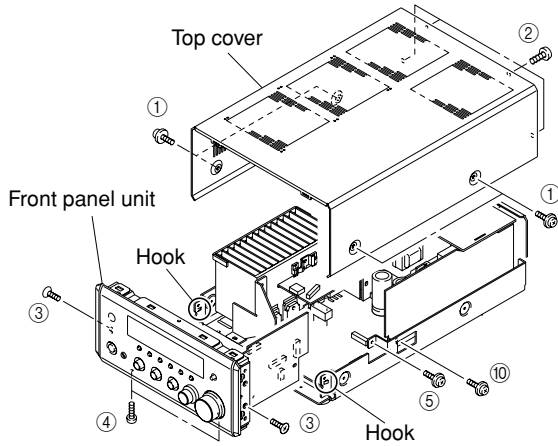
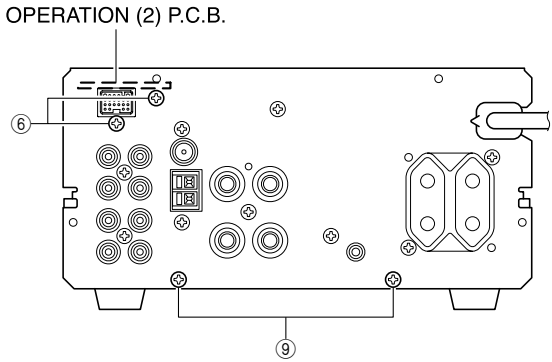
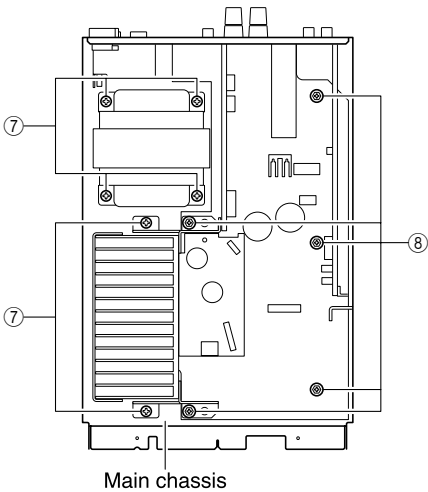

Fig. 1
Fig. 3
Fig. 4
- a. Remove 4 screws (1) and 4 screws (2). (Fig. 1)
- b. Lift the top cover at the rear and move it rearward slantingly. (Fig. 1)
- b. Remove 2 screws (3), 2 screws (4) and 1 screw (5). (Fig. 1)
- c. Release 2 hooks and remove the front panel unit by pulling it forward. (Fig. 1)
- b. Remove 2 screws (6). (Fig. 3)
- c. Remove the OPERATION (2) P.C.B. which is connected directly to the lower P.C.B. with connections.
- d. Remove 6 screws (7). (Fig. 4)
- e. Remove 5 screws (8). (Fig. 4)
- f. Remove 2 screws (9). (Fig. 3)
- g. Remove 1 screw (10). (Fig. 1)
- h. Reinstall the OPERATION (2) P.C.B..
- i. Reinstall 2 screws (6). (Fig. 3)